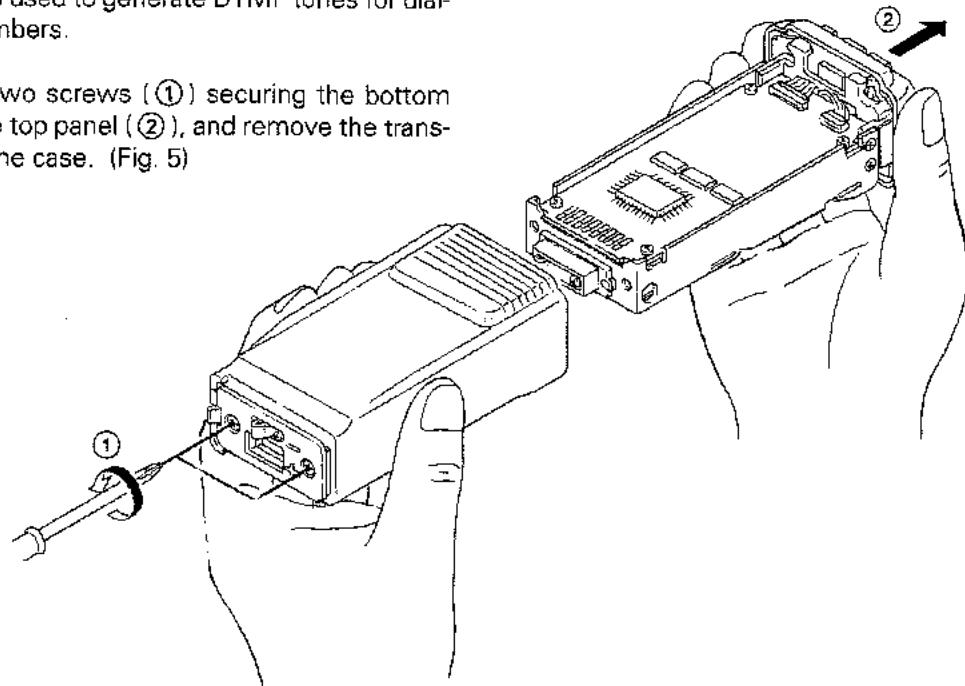

Fig. 5
1. Loosen the two screws (①) securing the bottom plate, pull the top panel (②), and remove the transceiver from the case. (Fig. 5)
1. Loosen the two screws holding the bottom plate, pull the top panel, and remove the transceiver from the case. (Fig. 5)